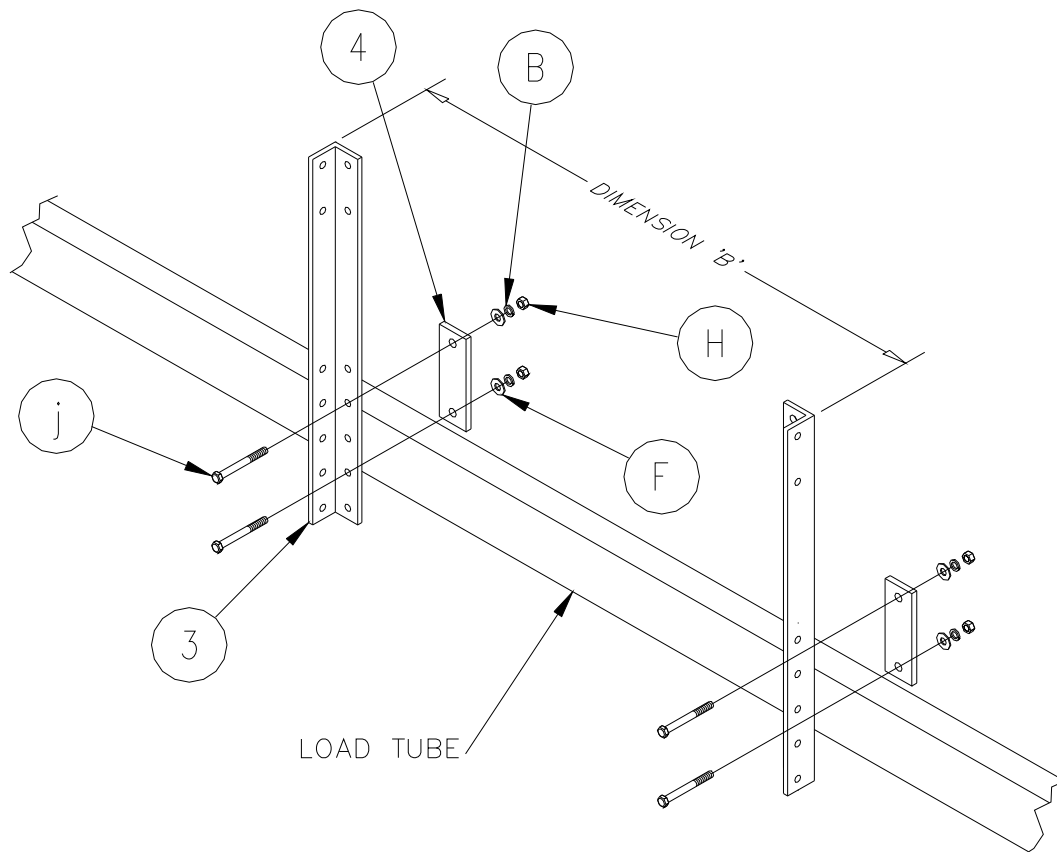

Figure 2-6.
6. **Refer to Figure 2-6.** Fasten the each guide-on mounting angle to the load tubes using two 3/8-16 HHCS bolts (A), two flat washers (F), two split-lock washers (B), and two silicon bronze hex nuts (H) supplied. Silicon bronze nuts have been provided to prevent hardware "gall, lock up, or seize" during assembly.